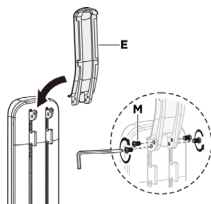

Figure 2
2. Place the **Lever Back Plate** onto its receptacle on **Monitor Column Lift**, aligning all four holes. Then, using **M4x6mm Screws (x4)** and the **5mm Hex Key with Screwdriver**, fasten the **Lever Back Plate** to the **Monitor Lift Column** by carefully driving the **M4x6mm Screws** into each of the mounting holes on the **Monitor Column Lift** through the screw holes on the **Lever Back Plate**. As shown in Figure 2.